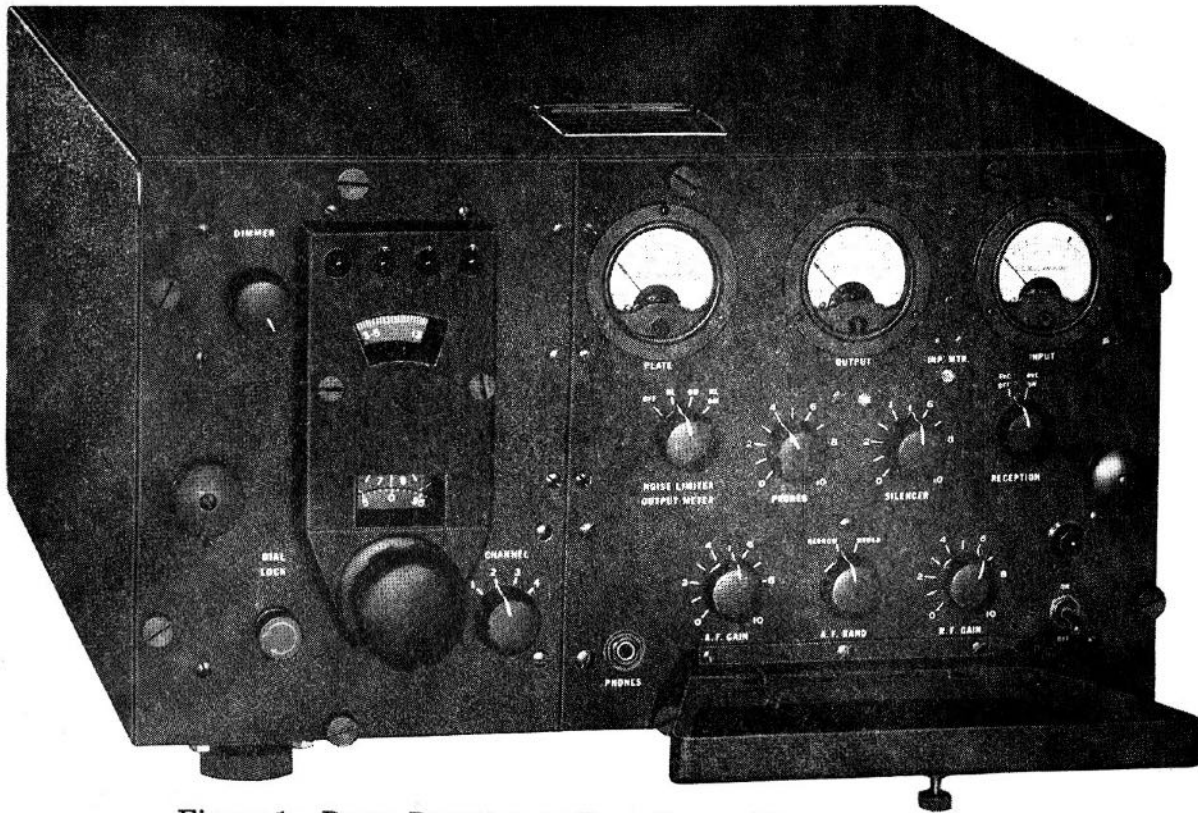

Figure 1. RADIO RECEIVER IN DUST COVER (KNOB COVER DOWN)
2.111 The Type CZC-46223 Radio Receiver is primarily designed for top of table or bench mounting. It is furnished in a metal cabinet supported from its mounting base with rubber shock mounts at the four bottom corners of the cabinet. The front panel, to which the chassis is secured, forms the enclosure for one side of the cabinet. The general appearance and type of construction employed are shown in Figures 1 and 2.
2.116 The receiver panel layout is shown in Figure 1, and the location and functions of the various controls are described in Section 5, Operating Instructions.